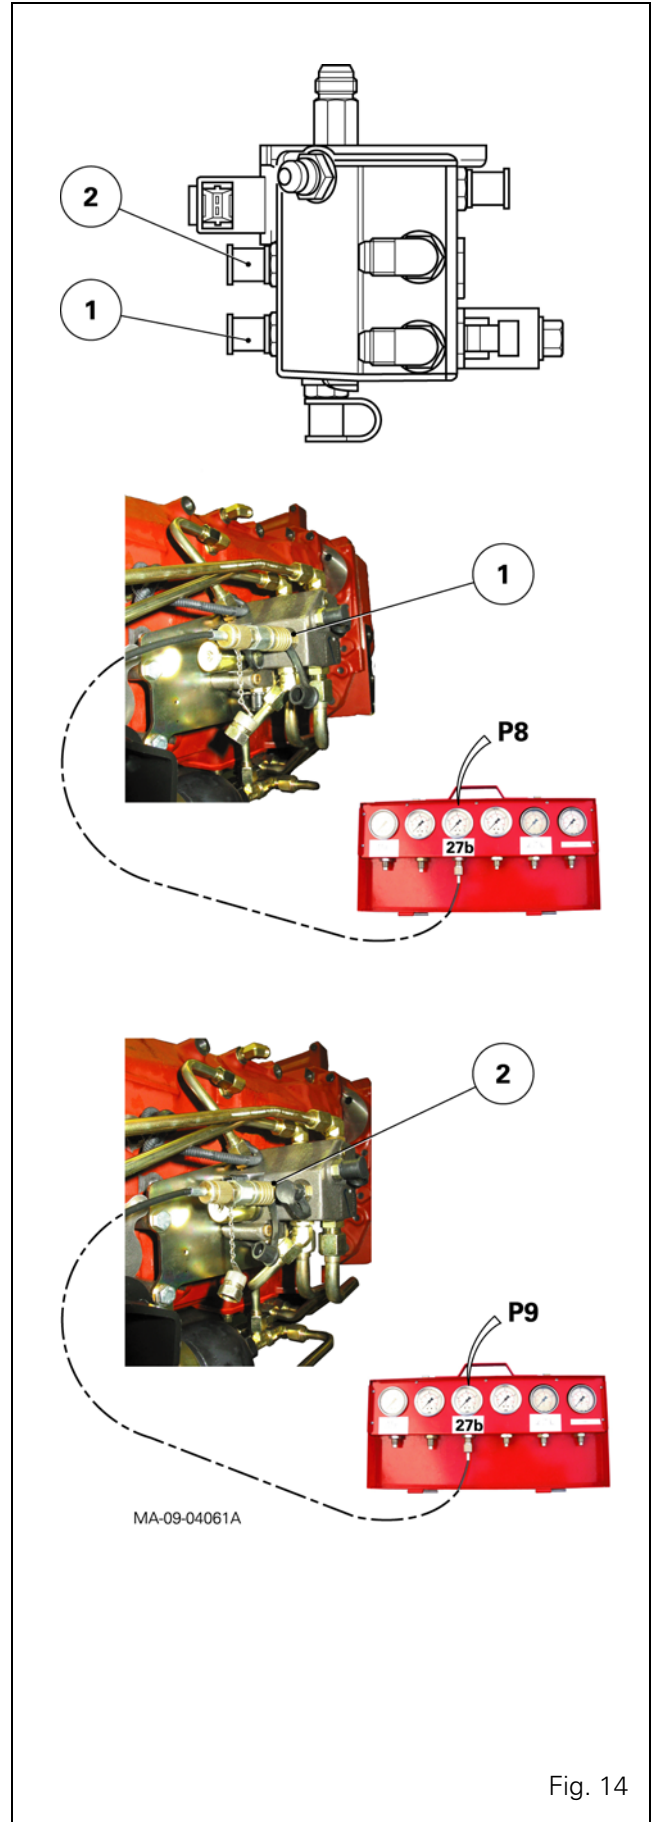

Fig. 14
- The diagnostics connectors (1) (forward) and (2) (reverse) of the Power Shuttle clutches are on the control unit fitted to the front right of the gearbox (Fig. 14).
Test (Fig. 14)